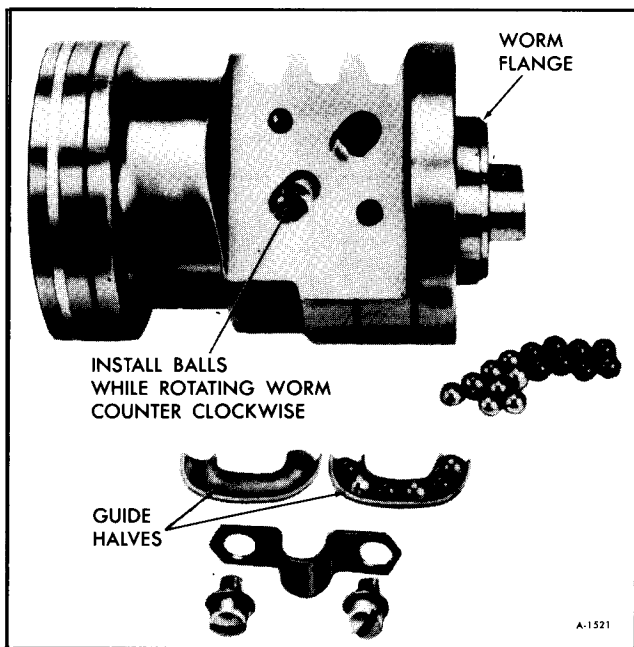

Figure 41—Installing Balls in Rack-Piston
3. Turn the worm until the worm groove is aligned with the lower ball return guide hole (figure 41).